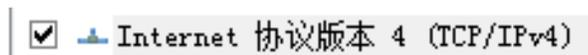

Figure 8.1.3
③ Left-click on the pop-up window shown in Figure 8.1.3. Select “Properties” on the interface and left-click. The dialog box shown in Figure 8.1.4 will pop up. Fill in the contents according to the figure.